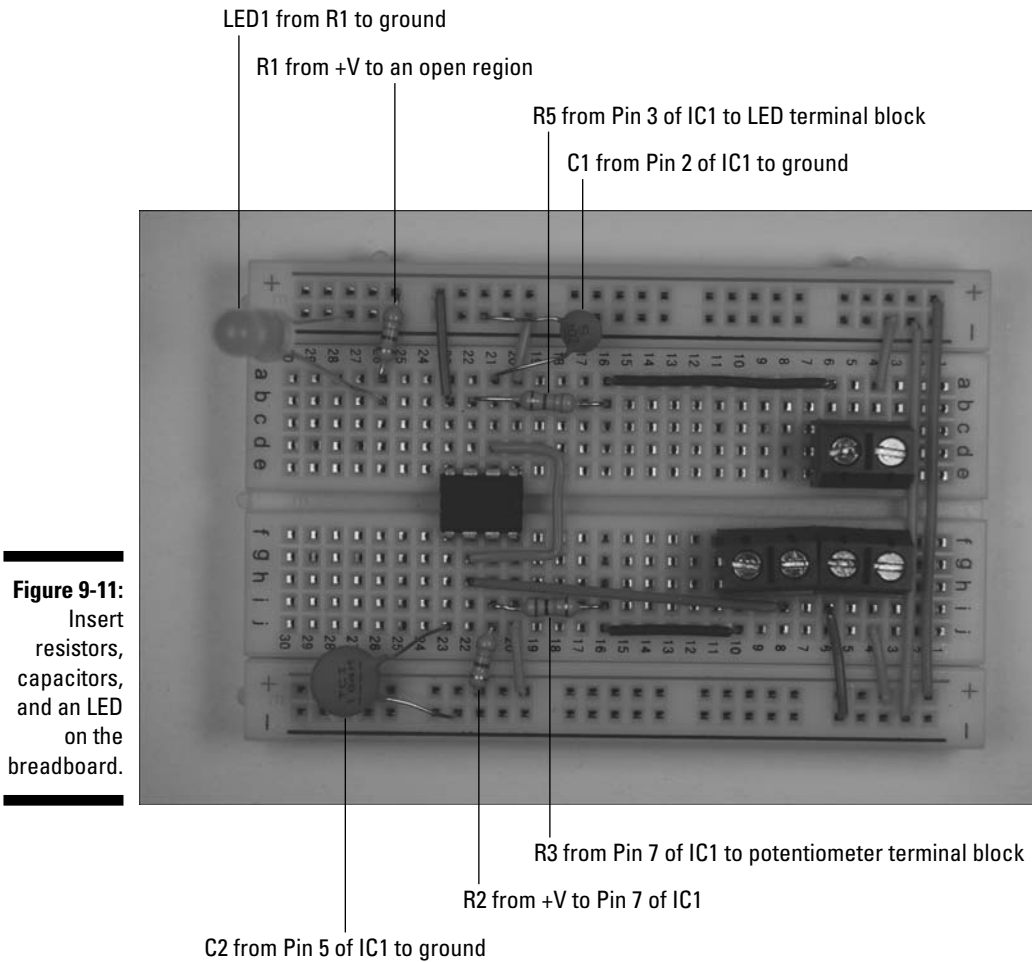

Figure 9-11:
5. Insert discrete components on the breadboard, as shown in Figure 9-11.